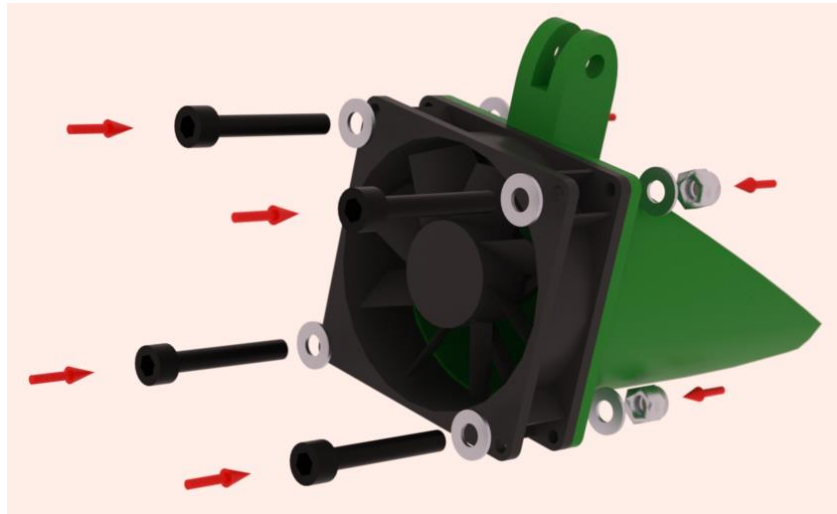

Figure 36: Part Cooling Fan Assembly
- Attach the 40mm fan to the duct as shown in Figure 36.